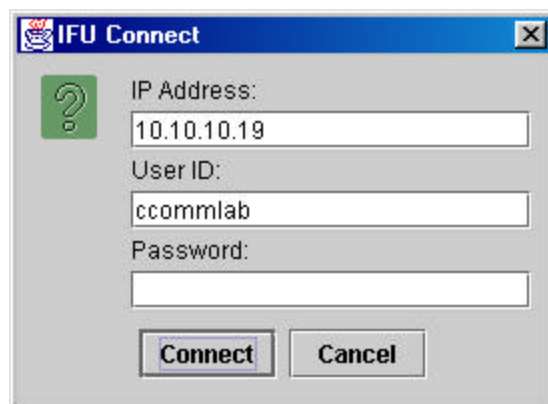

Figure 3-19. Login IDU Connect Screen
7. Use the **Network** drop-down menu and select **Connect** (see Figure 3-19). In the IDU Connect window, complete the following: